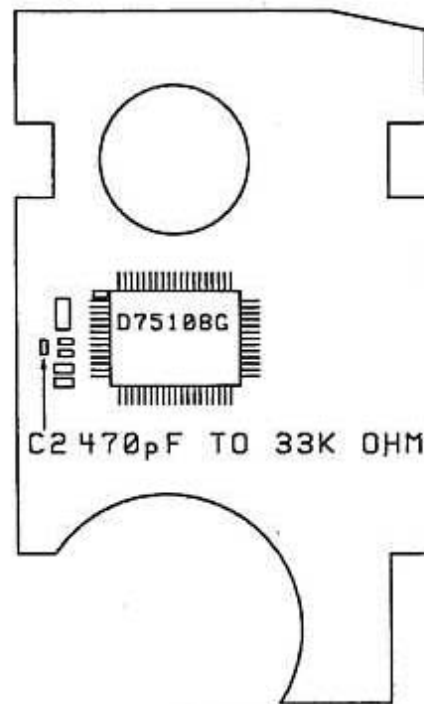

FIGURE 4
8. Locate chip capacitor C2 on the Control board. Figure 4.